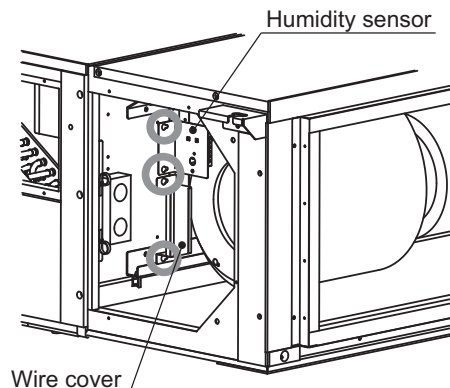

Fig.6
4. To remove the humidity sensor (Fig.6)
- (1) Loosen the two humidifier sensor fixing screws to remove the sensor.
5. To remove the wire cover (Fig.6)